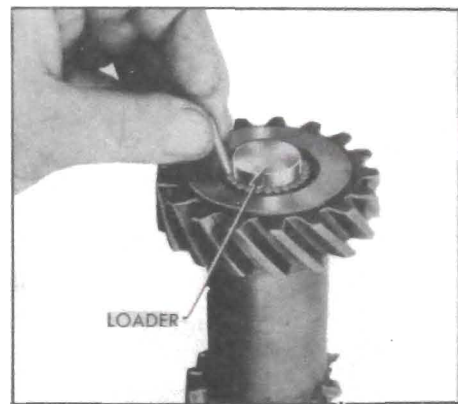

Figure 4-34—Installing Counter Gear Bearings with Leader
(7) *Counter Gear Bearings, Thrust Washer and Shaft.* Use Bearing Loader J-1334 when installing spacer, washer, and bearings in counter gear. See figure 4-34. Pack bearing rollers in white vaseline to hold them in place and make certain that all rollers are installed (25 in each bearing). Leave loader in gear until it is pushed out by the counter gear shaft during installation.